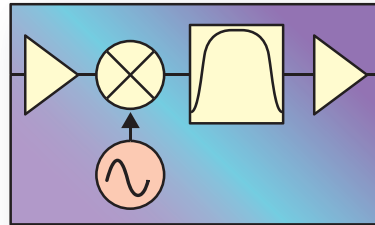

Figure 12. Embedded-LO conversion device
Embedded-LO frequency converters contain an internal local oscillator (LO) that cannot be locked to an external time base and cannot be replaced by an external LO signal. This conversion device is widely used in satellite and large radar systems. Figure 12 shows an example.